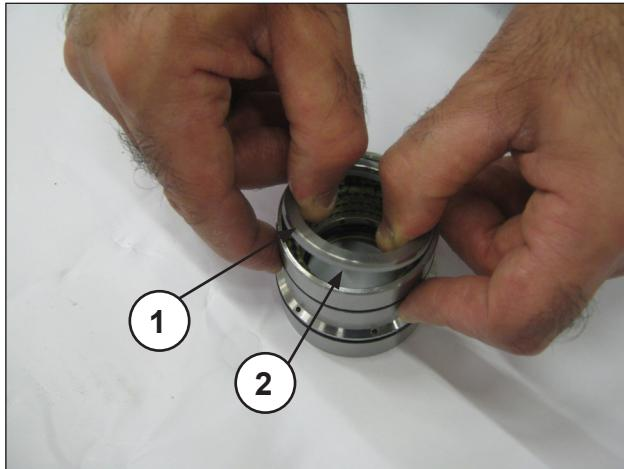
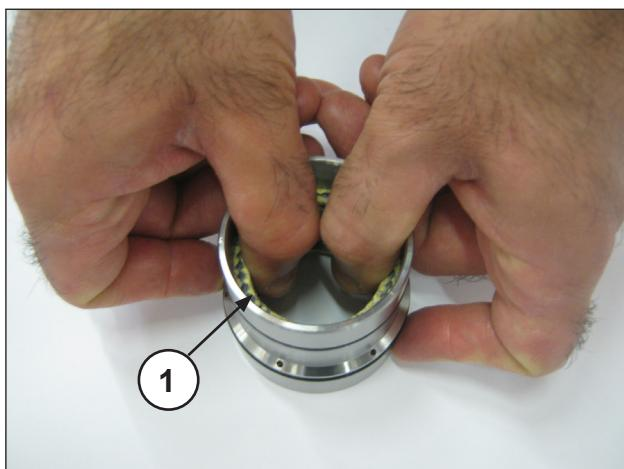

Fig. 25
Fig. 26
Separate the seal support from the liner, remove the spring ring and scraper ring (pos. ①②, Fig. 25) to access the pressure seals (pos. ①, Fig. 26).